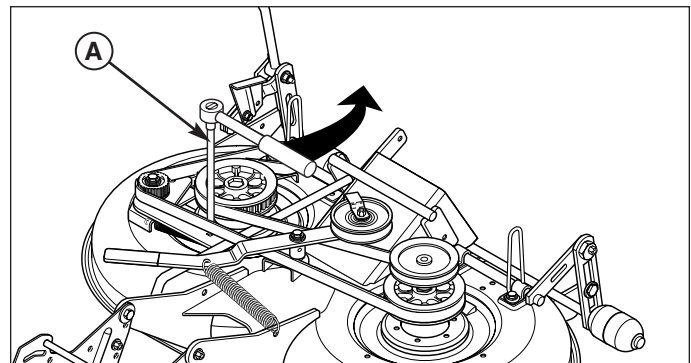

Figure 39. Release Belt Tension
4. Using a ratchet (A, Figure 39), move the idler assembly (H, Figure 39) to relieve tension on the belt (F).
5. Remove the belt (F).
6. Install a new belt (F) on the pulleys as shown. Releasing the idler assembly (H) allows the spring to automatically tension the cogged belt.
7. Tighten the idler assembly capscrew (G). Reinstall the belt covers.